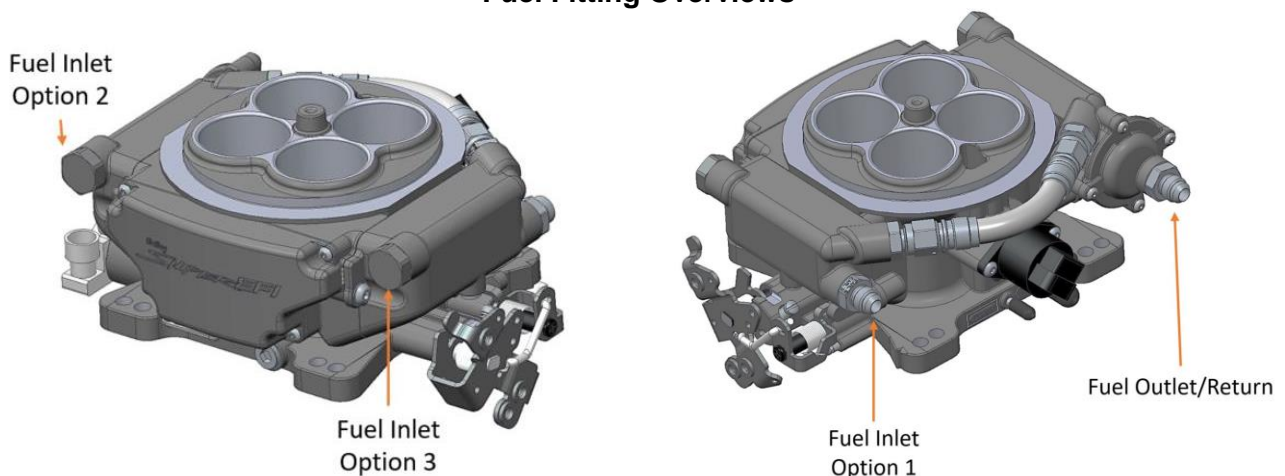

**Figure 3**
5. Reconnect the appropriate vacuum hoses to the Sniper EFI throttle body. **Be sure to plug any vacuum sources not used on both the Sniper EFI Throttle Body and on the Engine.** See Figure 3 for diagram of vacuum ports.